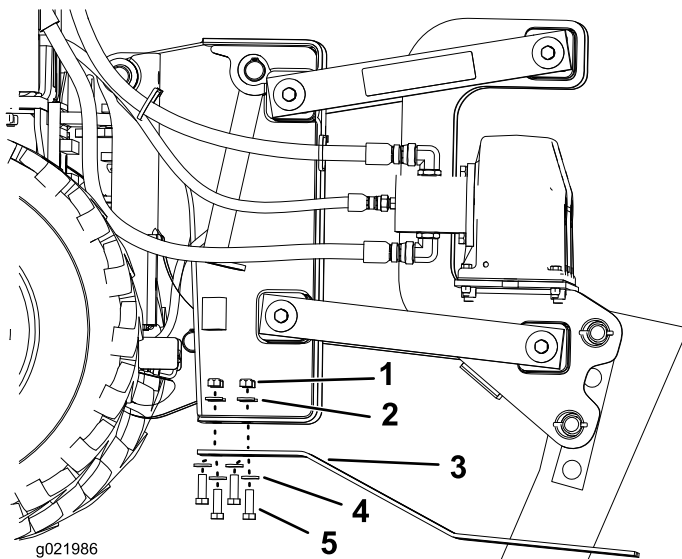

Figure 10
3. Remove the 4 bolts, 4 nuts, and 8 washers from the skid shoes (Figure 10).
4. Install the new skid shoes and secure them with the previously removed hardware (Figure 10).